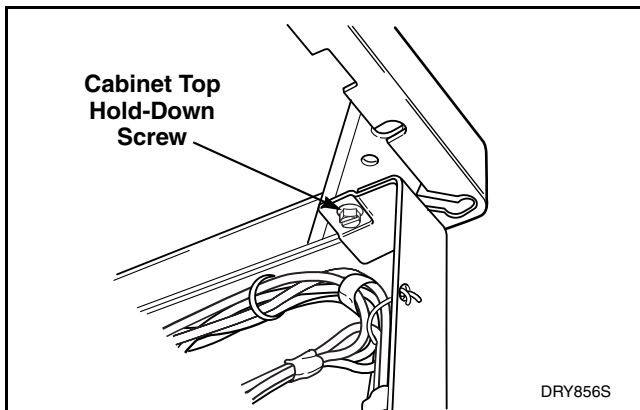

Figure 17
- Remove two cabinet top hold-down screws. Refer to *Figure 17*.